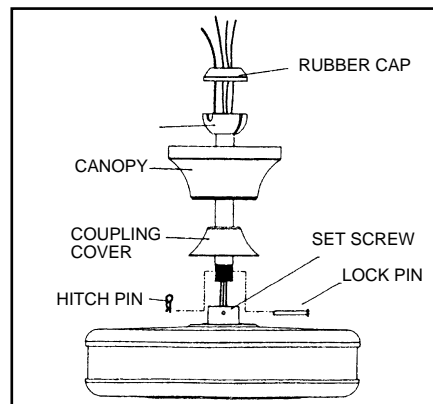

Fig.8
**Step 4.** Carefully feed fan wires up through the downrod and then through the holes in the rubber cap on the top of the downrod. Insert the rod into the coupling and tighten onto fan until the holes are aligned. Next, replace lock pin and hitch pin. Tighten the set screws. (Fig. 8)
**Step 5.** Slip coupling cover, and canopy onto downrod. Let canopy rest on top of the coupling cover. Carefully reinstall hanger ball onto rod being sure that cross pin is in correct position, set screw on hanger ball is tight and wires are not twisted. (Fig. 8)